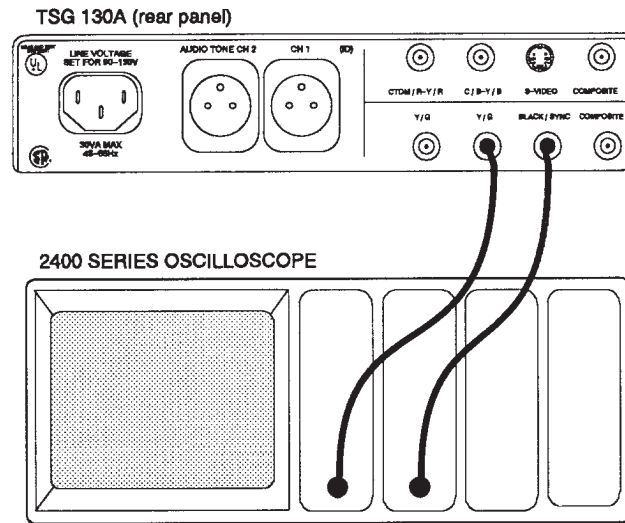

Figure 5-8: Setup to check Option pulse outputs
- a. Connect the equipment as shown in Figure 5-8.